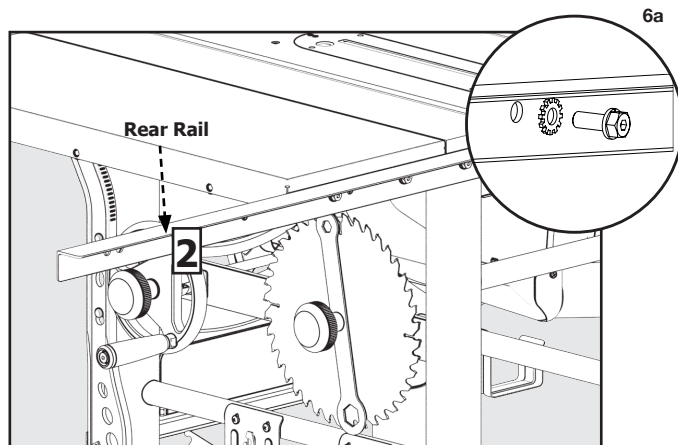

FIGURE 6
2. Attach the rear rail (2) to the table back using two (5/16-18 x 7/8") flat head screws w/ spring washer and two (5/16-18) hex flange nuts. (Fig. 6) One (5/16") flat star grounding washer should be installed directly in front of one of the screw heads. (Fig. 6a)